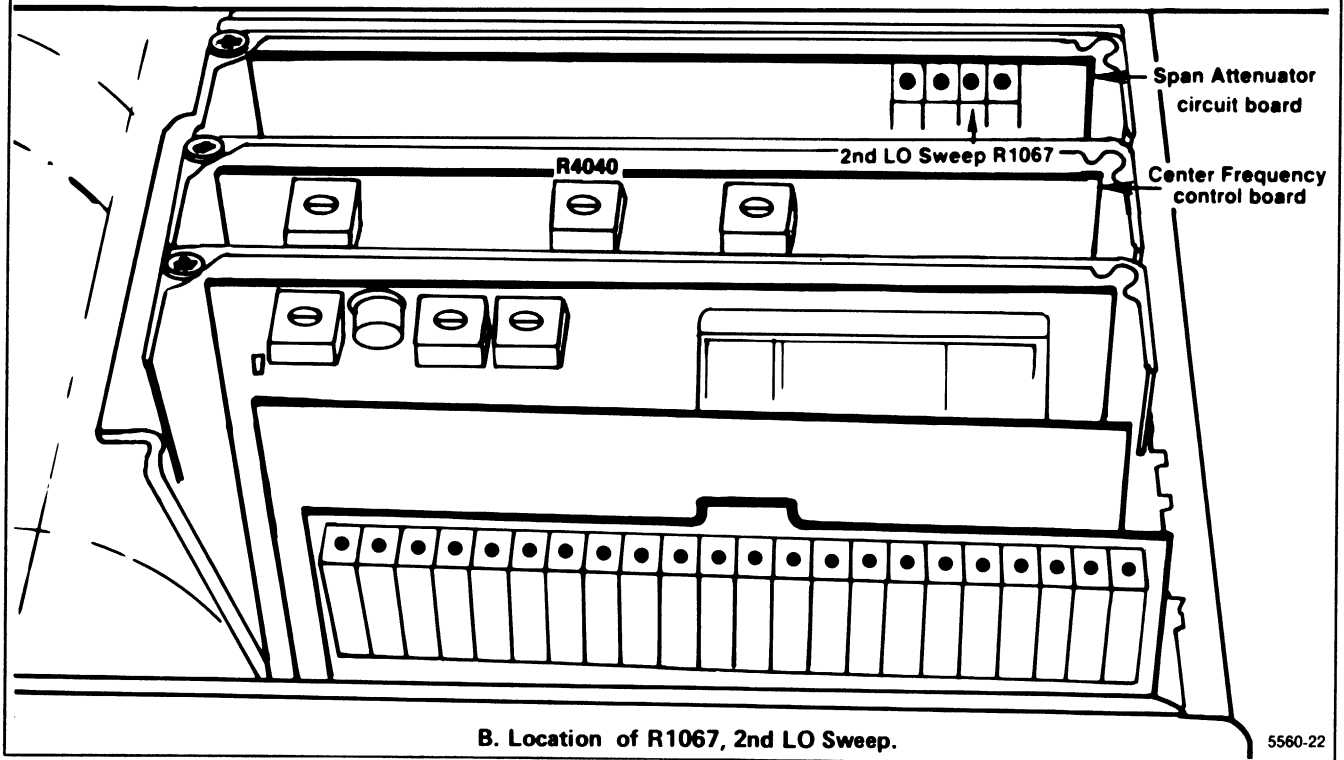

Figure 6-20. Tune and Sweep Range adjustments.
a. Center the Fine Tune adjustment R4040, on the Center Frequency Control board and the 2nd LO Sweep adjustment R1067, on the Span Attenuator board (Figure 6-20).
c. Adjust the 2nd LO Sweep R1067, on the Span Attenuator board (Figure 6-20), so the comb lines on opposite sides of the screen, are exactly 8 major divisions apart.